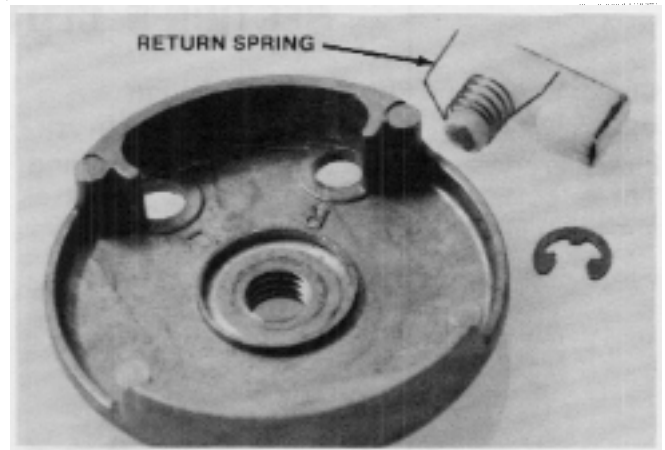

Figure 69
1. Install the return spring onto the pawl as shown in Figure 69.